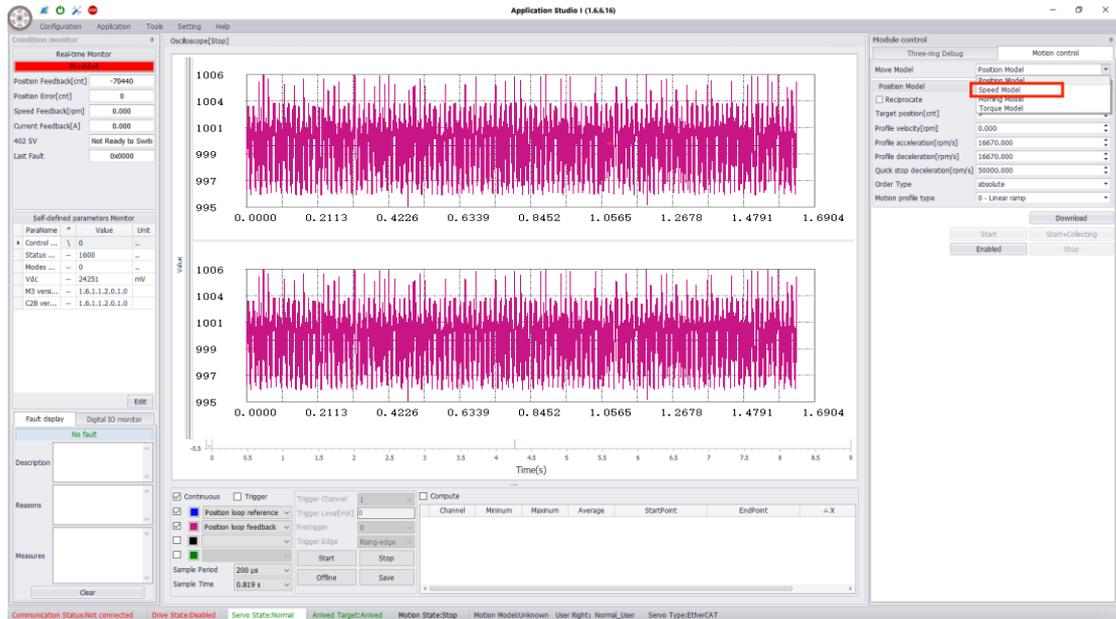

Figure 3-32 Interface of motion control in velocity mode
1. Select "**Velocity Mode**". The interface of motion control in velocity mode shows as in Figure 3-32.